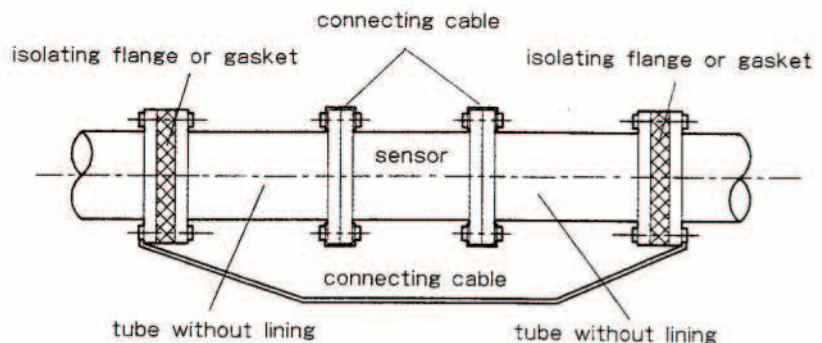

Figure 18. Connection using tubes without lining
- c) Some system, e.g. the piping with cathode protection, it will have disturbing potential because not whole system is grounding potential. In order to eliminate this interfere, you can connect two tubes without lining to the sensor as shown in figure 18.